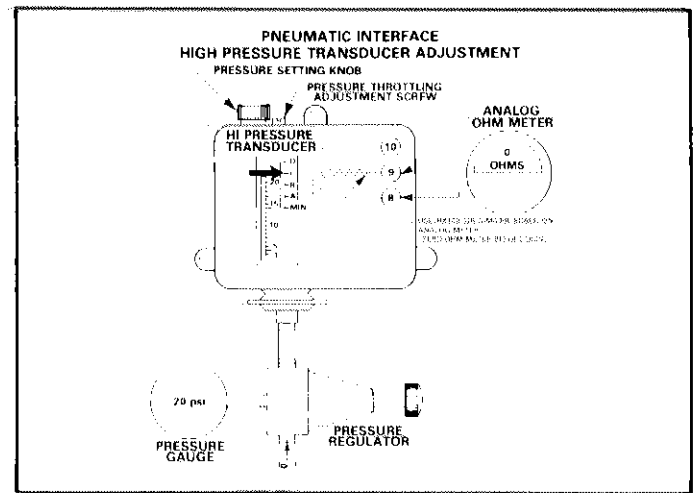
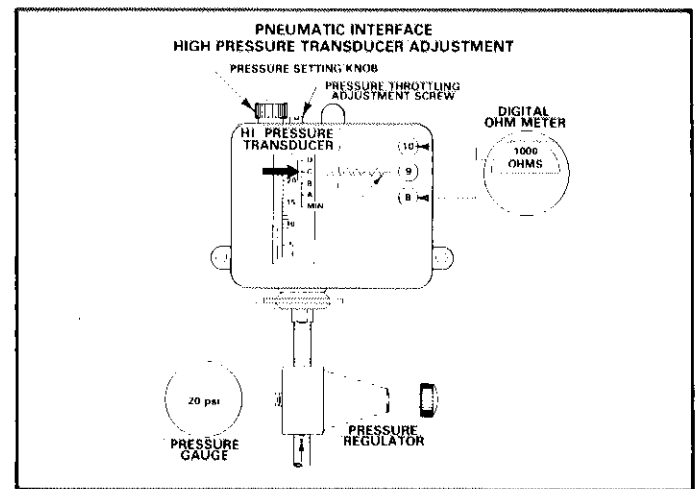

FIGURE 114
FIGURE 115
- 4 - If using an analog OHM meter, connect to terminals 8 and 9 as shown in Figure 114 before continuing with following steps.
- 5 - Adjust throttling adjustment screw. Start from "D" position and move toward "MIN" until no further resistance decrease is noted. Value should be approximately zero with an analog meter. Setting should be approximately "C". See Figure 114 for analog meter or Figure 115 for digital meters.